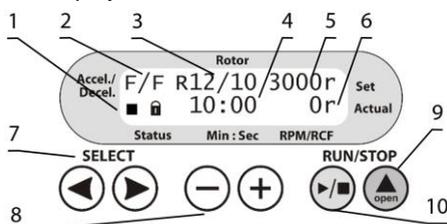

Figure 4. LMC-3000 control panel
- Check the power cable for any signs of damage. Connect the power cable to a properly grounded mains socket. Set the power switch on the unit to position **I** (on). Press the **▲ Open** key (fig. 4/9 or 5/11) and lift the lid by hand.
- Acceleration and deceleration modes (fig. 4/2 or 5/2);
- Rotor selection (fig. 4/1 or 5/1);
- Set rotor speed in RPM or RCF¹ (fig. 4/6 or 5/6);
- Status icons of rotor, ■ stopped or ► running (fig. 4/1 or 5/1, first symbol);
- Status icons of lid, ■ closed or ▣ open (fig. 4/1 or 5/1, second symbol);
- Set time of centrifugation, in minutes and seconds (fig. 4/4 or 5/4);
- Actual rotor speed, in RPM or RCF (fig. 4/6 or 5/6);
- 5.3. Press the **▲ Open** key (fig. 4/9 or 5/11) and lift the lid by hand. Check the rotor and buckets for any signs of wear or corrosion and replace if necessary. Insert EVEN number of tubes/microtest plates in rotor one opposite another. The loading in the opposite tubes must be equal.
- 5.4. **Setting parameters.** Use the **SELECT** ◀ and ▶ keys (fig. 4/7 or 5/10) to choose a parameter and the – and + keys (fig. 4/8 or 5/9) to modify it. Selected parameter will be blinking. Program automatically saves any changes made after no keys are pressed for 2 seconds.
5.4.1. Acceleration modes (fig. 4/2 or 5/2, first letter). Three modes of acceleration are available, slow (shortened to **S**), normal (**N**) and fast (**F**).
5.4.2. Deceleration modes (fig. 4/2 or 5/2, second letter). Four modes of deceleration are available, free brake (**0**), slow (**S**), normal (**N**) and fast (**F**).
- 5.4.3. Installed rotor (fig. 4/3 or 5/3). Select the rotor that is currently installed in the centrifuge. Combinations of rotors, adapters and their maximum allowed speed is listed below in the Table 1.
- 5.4.4. Rotation parameters (fig. 4/5 or 5/5). Rotor speed can be set in RPM and in RCF, denoted after numeric value by **r** and **g**, accordingly. Values convert after changing units. RCF depends on selected rotor or adapters, as shown in Table 1.
- 5.4.6. Time setting (fig. 4/4 or 5/4). Select duration of centrifugation in minutes, step 1 minute.
- 5.5. Close the lid carefully and smoothly until a clicking sound is heard. Icon  appears on the display (fig. 4/1 or 5/1).
- 5.6. Press the **RUN/STOP** /■ key (fig. 4/10 or 5/12) to start centrifugation. Icon  (fig. 4/1 or 5/1) and actual speed (fig. 4/6 or 5/6) are shown in the lower line of the display. The timer (fig. 4/4 or 5/4) starts the countdown after set speed is achieved.